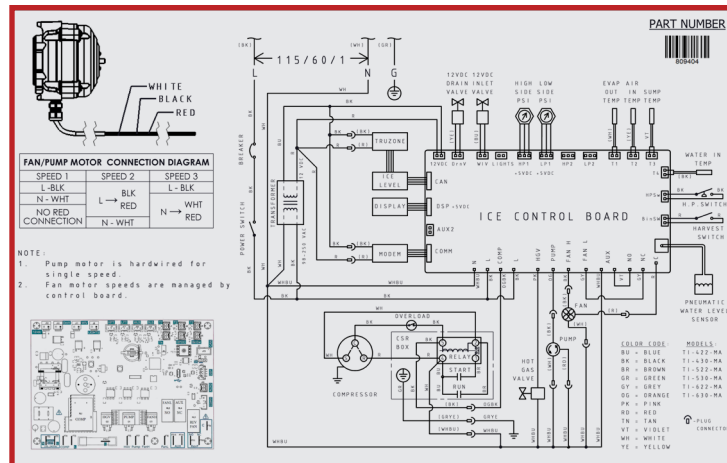

Fig. 1. Wiring diagram located under the top panel.
- See wiring diagram beneath the top panel as shown in fig. 1. To access, see "Panel Removal" (pg. 33).